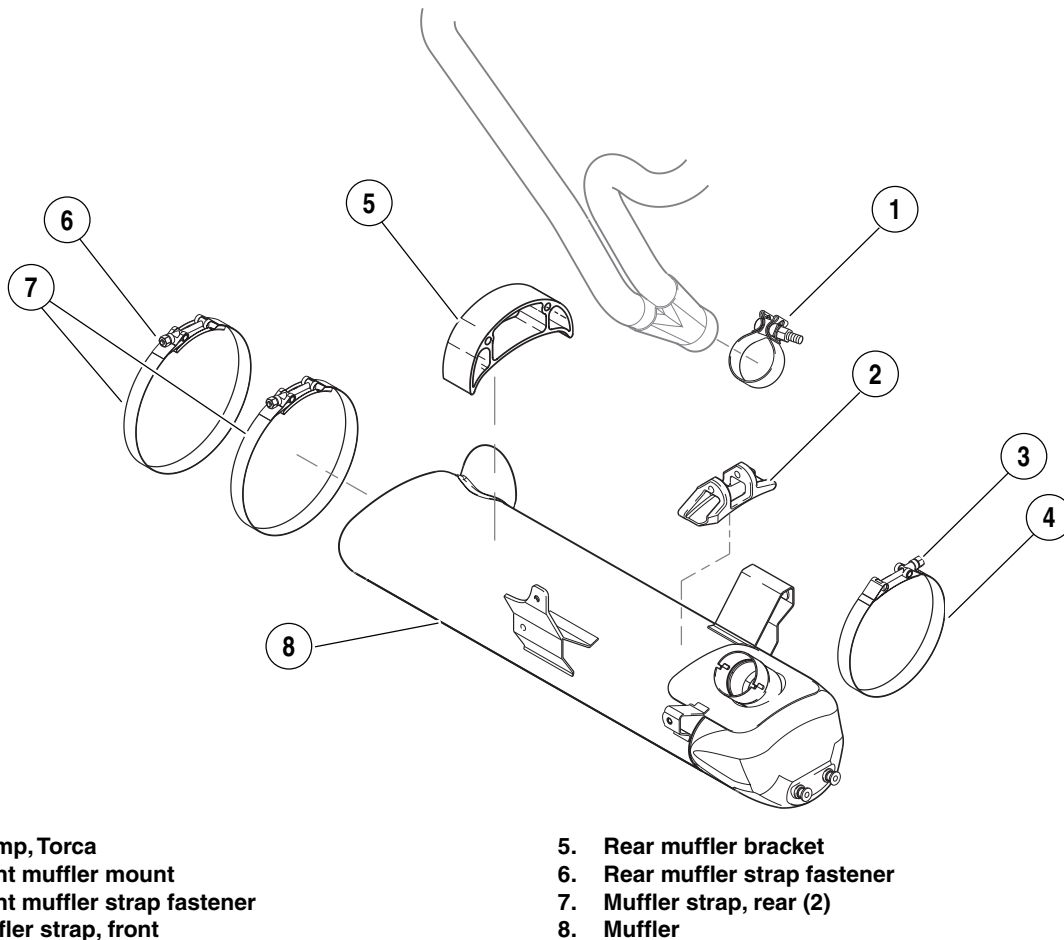

Figure 3-13. Muffler and Mounting System
16. See Figure 3-13. Install muffler with **new** torca clamp but do not tighten:
- a. Install rear muffler straps and alternately tighten rear strap fasteners (6) to **48-60 in-lbs** (5.4-6.8 Nm).
- b. Install front muffler strap fastener (7) and tighten to **108-120 in-lbs** (12.2-13.6 Nm).